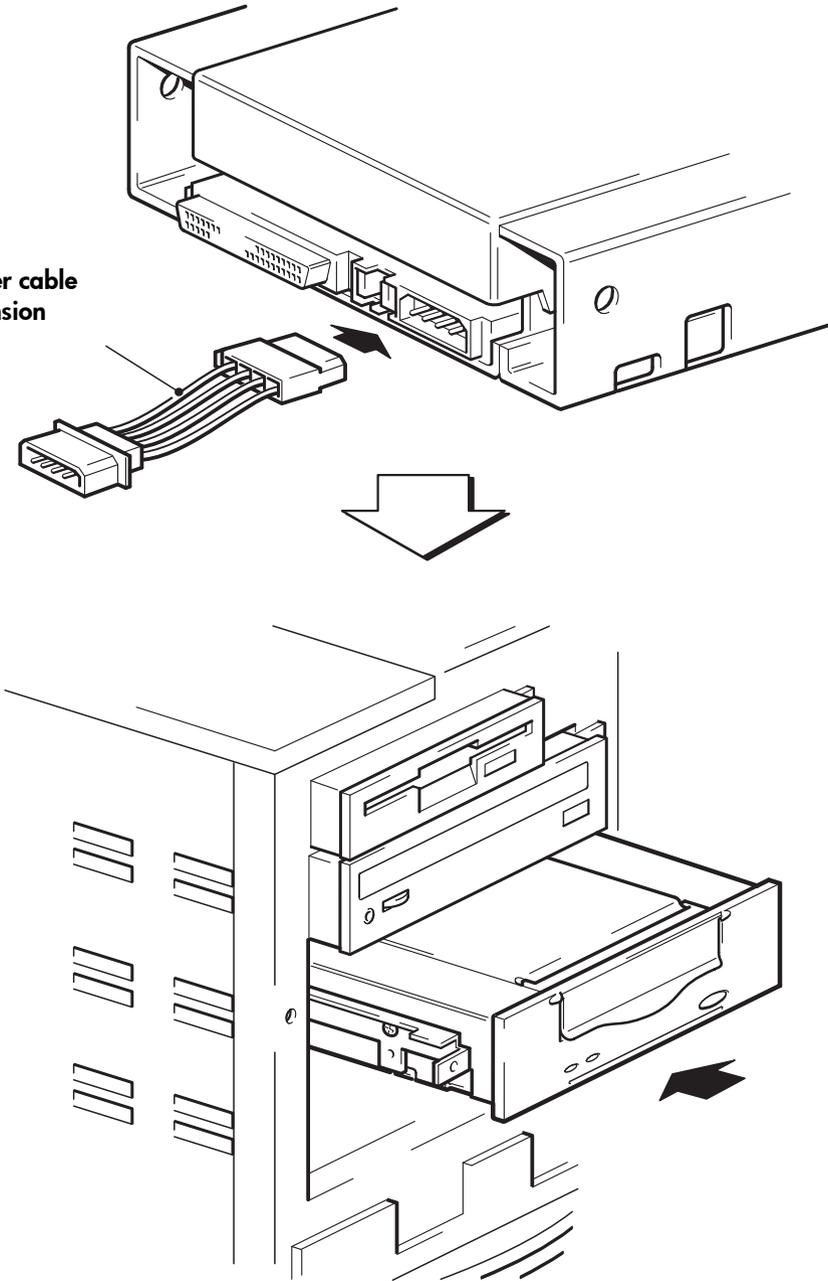

Figure 7: installing the drive
- 1 Attach the power cable extension to the power connector on the rear of the tape drive, as shown in figure 7.
- 2 Slide the tape drive into the open bay, aligning the tray or rails with the slots in the bay, as shown in figure 7.